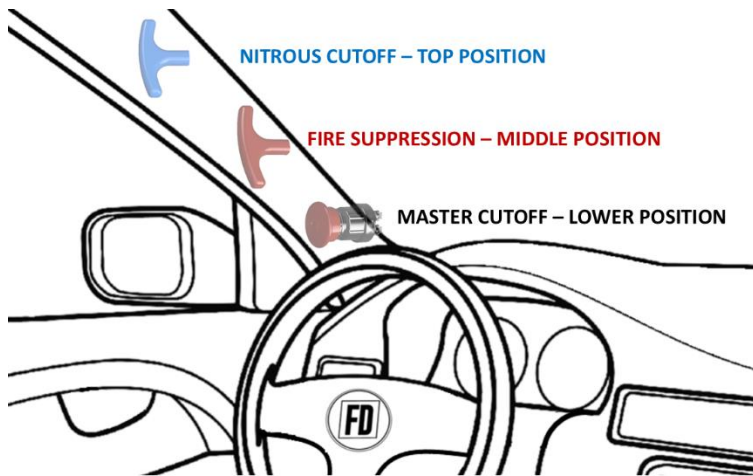

Figure 19
- C. The Nitrous cutoff (BLUE in color) pull t-handle must be located on the driver's side A-pillar. Refer to Figure 19